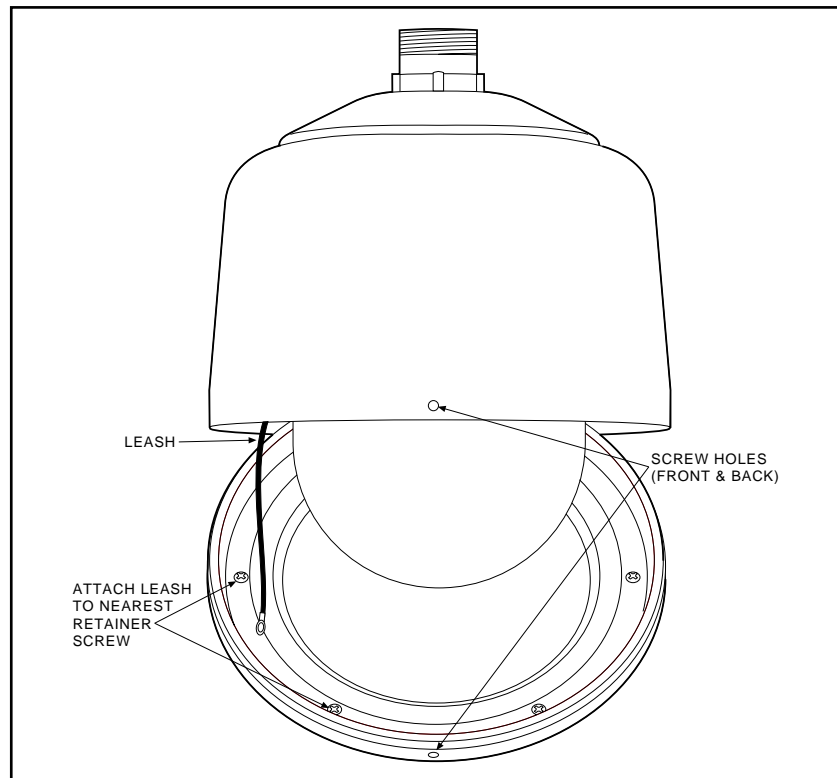

Figure 14. Lower Dome Installation, Pendant Models
8. Refer to Figure 14. Hanging down from the back box is a short cable (the trim ring leash). Hold up the lower dome near the back box so that the trim ring leash touches the lower dome. Line up the two screw holes in the trim ring of the lower dome with the two screw holes in the back box. Place a finger on the edge of the trim ring where the leash touches the lower dome.
9. Refer to Figure 14. Hanging down from the back box is a short cable (the trim ring leash). Hold up the lower dome near the back box so that the trim ring leash touches the lower dome. Line up the two screw holes in the trim ring of the lower dome with the two screw holes in the back box. Place a finger on the edge of the trim ring where the leash touches the lower dome.